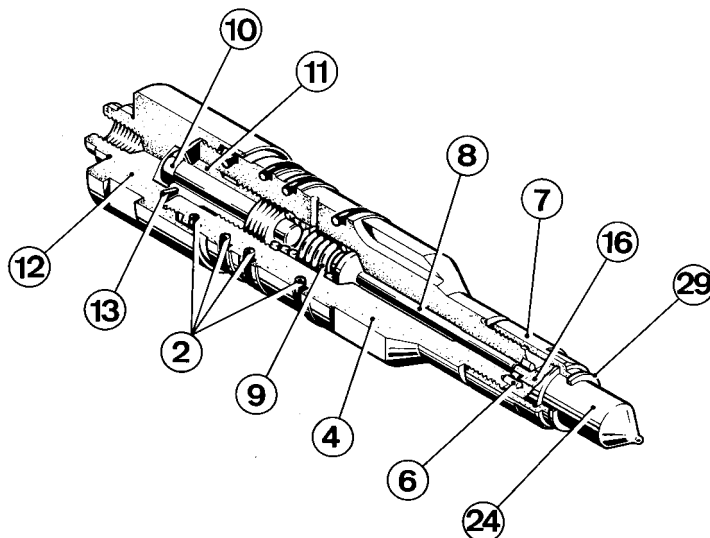

Fig. 1
Remove injector as per Job Card 07.07.01. Release clamping nut (18) - Fig. 1 -, thus separating adapter (19) from housing (4). Remove gasket (17). Release sleeve (11) and turn out adjusting screw (10) by a few turns until spring (9) is unloaded. Clamp housing (4) at its flats in a vice. Using wire brush, **carefully** remove combustion residue from the surface of the nozzle element (15), **avoiding damage to the nozzle bores**.
Clamp housing (4) (Fig. 1) in a vice with flat face at top. If dowel pin (6) presents shear marks, renew pin. Place nozzle element (15) with needle (16) and stop bush (5) on the carefully cleaned and dried flat surface. Apply Deutz S2 compound to thread of nut (7) and pressure face between nozzle element (15) and nut (7).